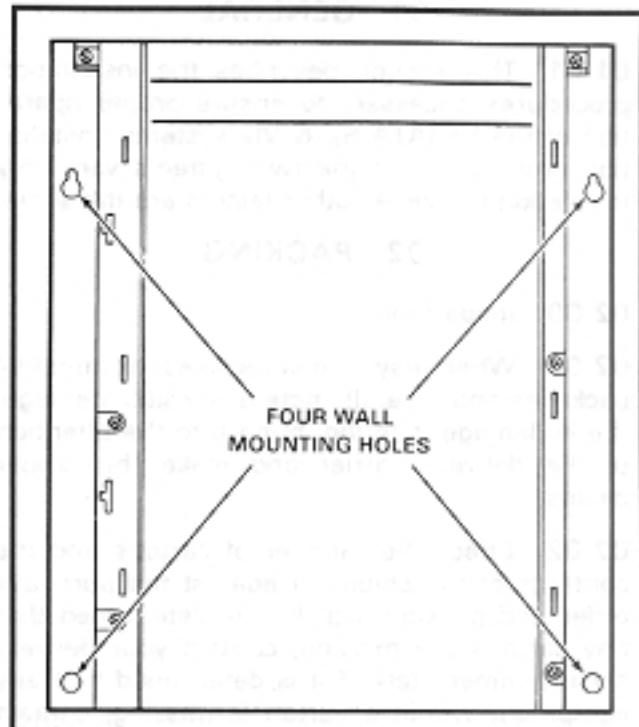

FIGURE 3—HKSU WALL MOUNTING
- 2) Hold the HKSU against the wall in its planned location and mark the screw locations through the centers of the two keyholes on the upper sides of the HKSU (Figure 3).
two additional screws in the lower two holes (Figure 3). Tighten all four screws.